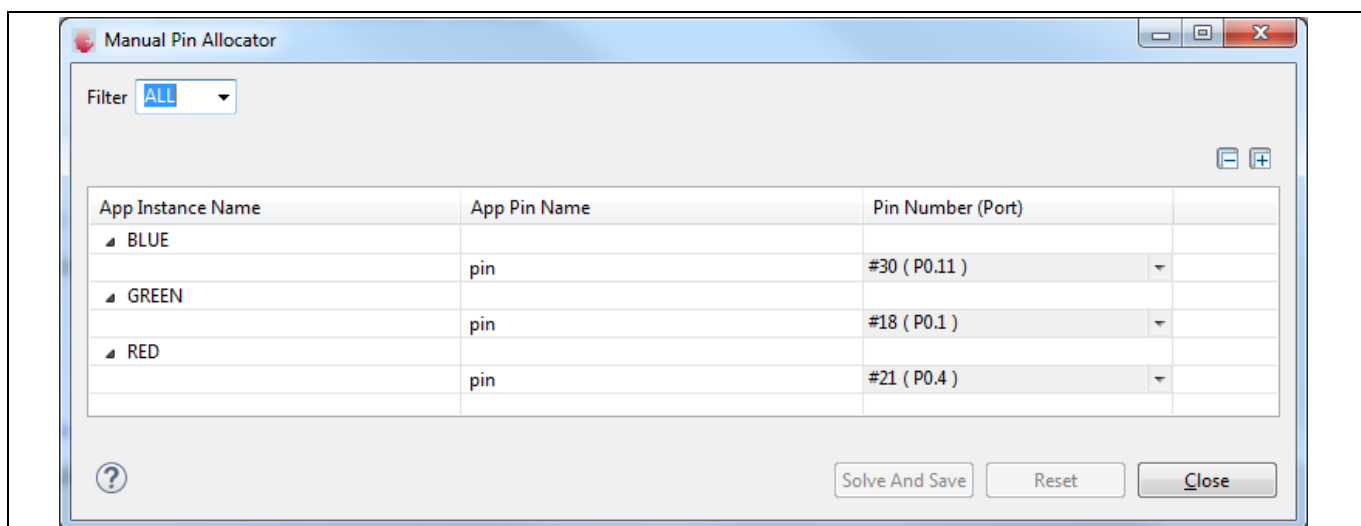

Figure 36 Manual pin assignment for PDM_BCCU APPs
6. Manually assign pins to the renamed PDM_BCCU APP instances (Figure 36).